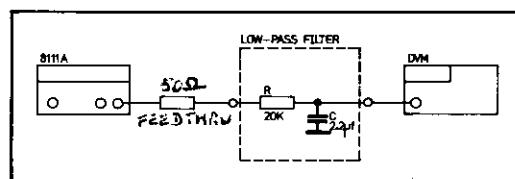

Figure 5-3
DVM, Lowpass filter as shown in Figure 5-3, Scope, Spectrum analyser (Distortion analyser)
7. Set DVM to DC, 10V Range. Use DVM built in filter function, otherwise use set-up as shown in Figure 5-3
25. Set DVM to DC, 10V Range. Use built-in filter or set-up as shown in Figure 5-3.